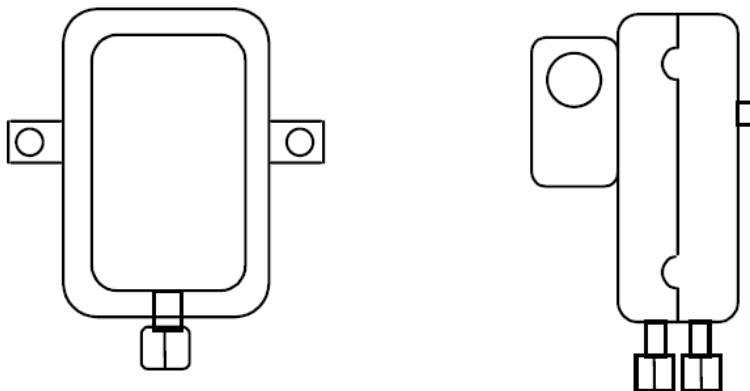

Figure 3
Select a location that is free from vibration. The NSA-AFS Series pressure switches must be mounted in any vertical plane in order to be able to reach the lowest specified operating setpoint. Avoid mounting with the sample line connections in the “up” position. Surface mount via the (2) 3/16” diameter holes in the integral mounting bracket. The mounting holes are 3 7/8” apart. See Figure 3.